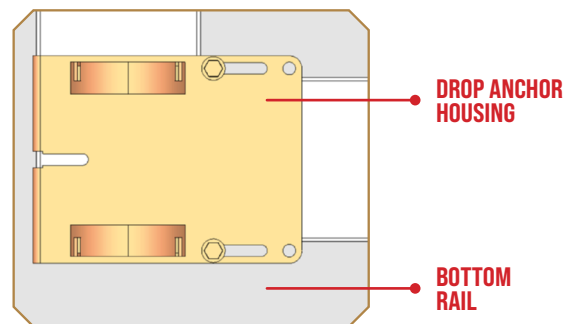

Figure 2
1. Clamp the drop anchor housings onto the gate ends using two of the three fastener sets (sets include 2 barrel nuts and four $\frac{3}{4}$ " bolts). The nuts fit closely to the top and bottom surfaces of the bottom rail (Figure 2).